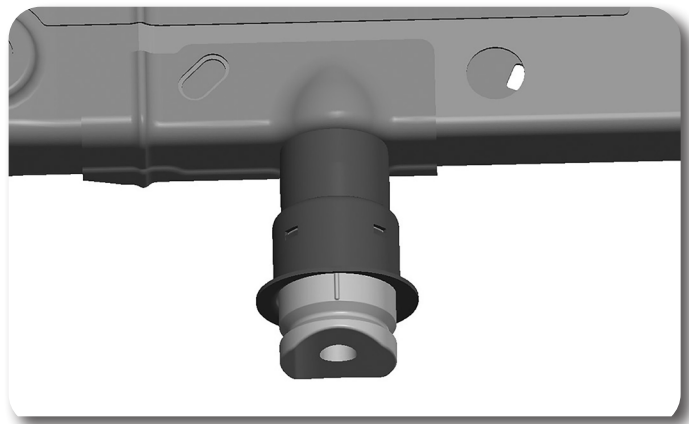

Figure 18
57. Place the proved bump stop extension between the frame and the bump stop cup and fasten with the provided 10mm x 80mm bolts and washers (Bolt Pack #896). Hold the bump stop extension so it remains centered on the cup as the bolt is tightened **Figure 18**. Tighten hardware to 35 ft-lbs.